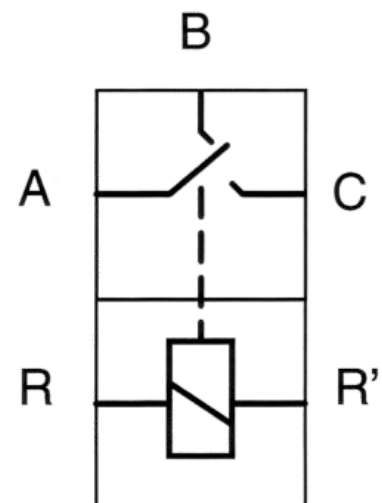

Fig. 3
- Complete Table 1 in the report using Fig. 3.